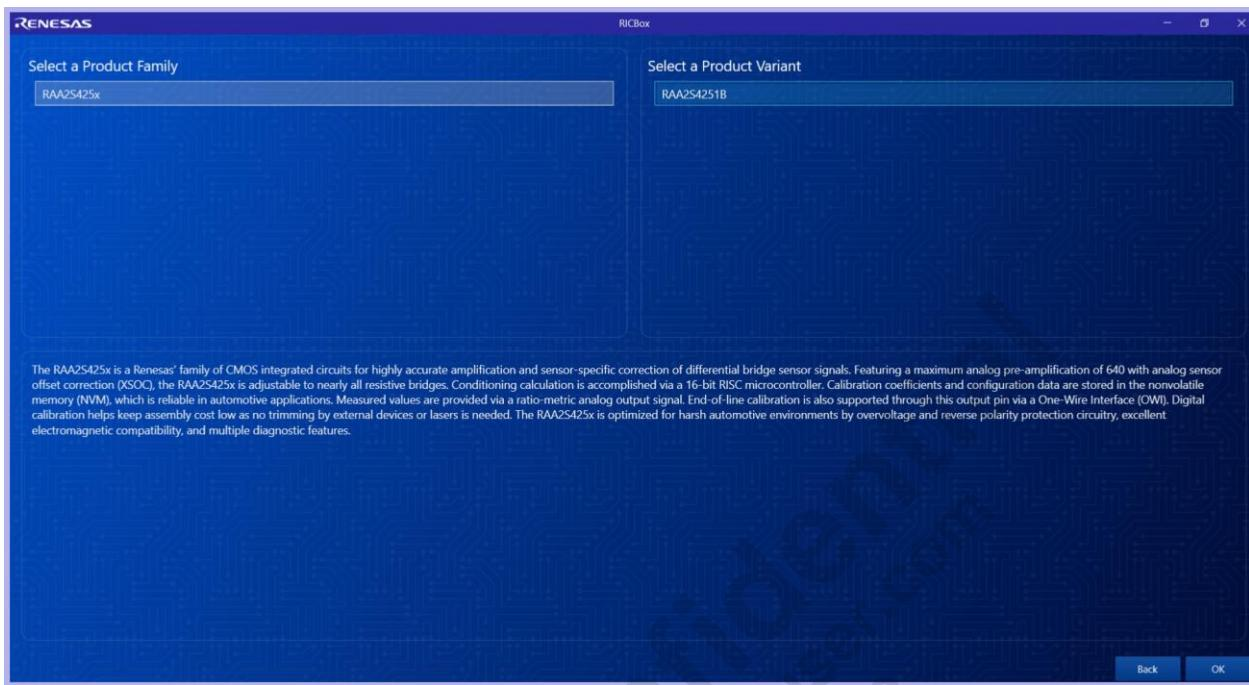

Figure 6. Family and Product Selection
2. Select the product family (RAA2S425x in this example) and the corresponding product (RAA2S4251B in this example), see Figure 6.